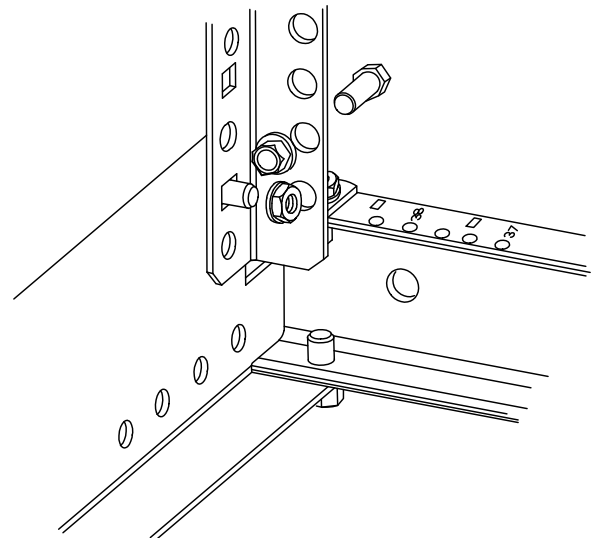

Figure 6
3. Fasten the Upper Adjustment Member to the Upper Cross Member. See Figure 6. Repeat this step for all upper corners.